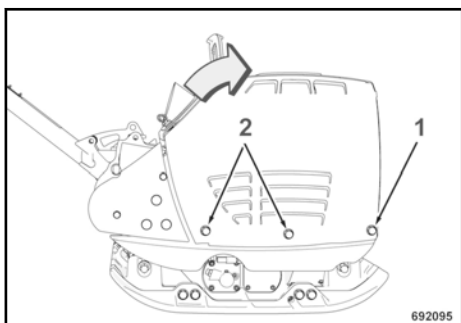

Fig. 82
Loosen the hood fasteners (1) on both sides and remove the fasteners (2) from both sides ↪ Fig. 82.